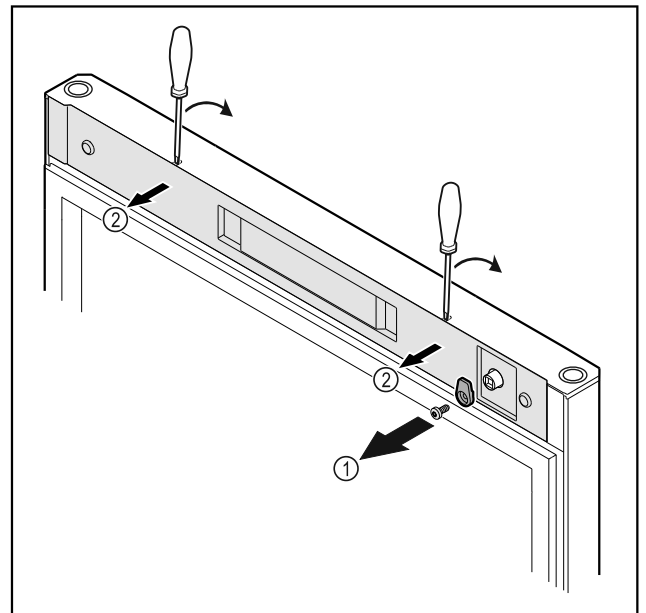

Fig. 18
- ▶ Unscrew the door latch Fig. 18 (1).
- ▶ Unlatch the cover Fig. 18 (1) with a small screwdriver and remove it.